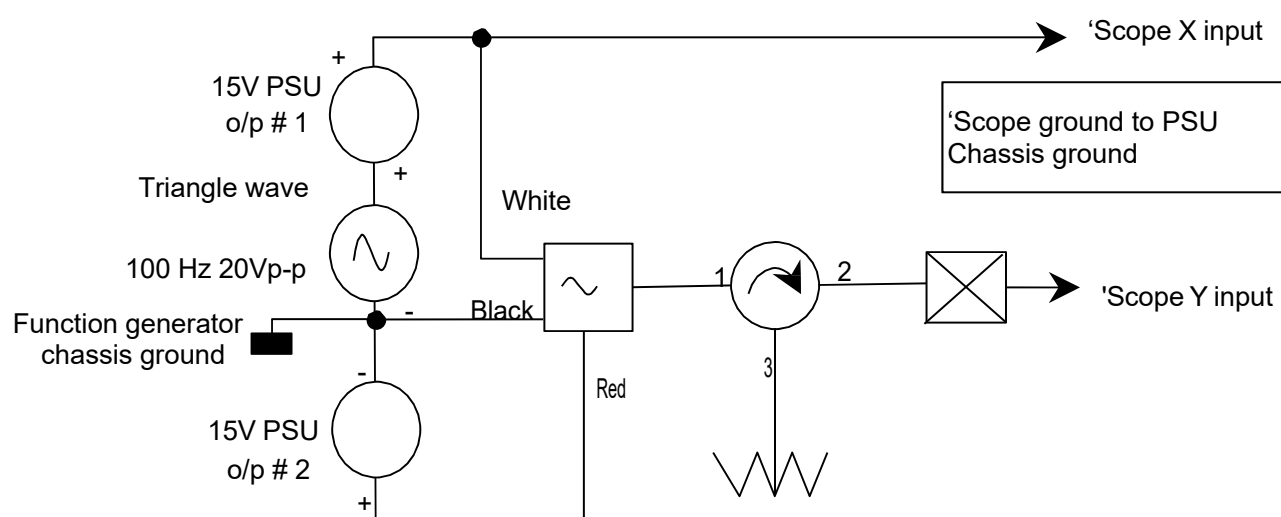

Figure 4. VCO and detector connections
3. Connect up the circuit. Refer to Figure 4 for the DC connections. Note that the input to the **WHITE** socket of the VCO is a +5V to +25V variable tuning voltage. This is obtained using the function generator in series with a 15V DC supply.
For all parts of the experiment, ensure proper care in the use of the equipment keeping the set up as shown in Figure 4.
Connect up the calibration set up for transmission measurement (Figure 4). Measure the detector output voltage as a function of microwave frequency in GHz. Convert the detector output voltage to power.
In the circuit of Figure 4, the detector output is: